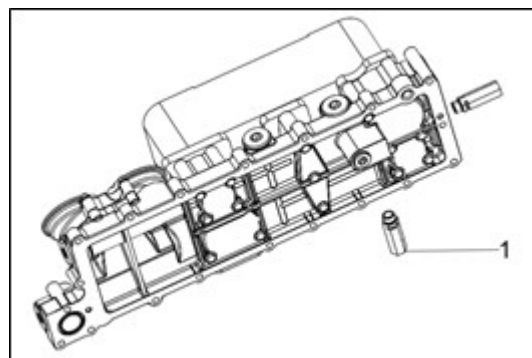

Figure 165
1. Remove the pressure-limiting valve (Fig 165, item 1) of the main oil passage.